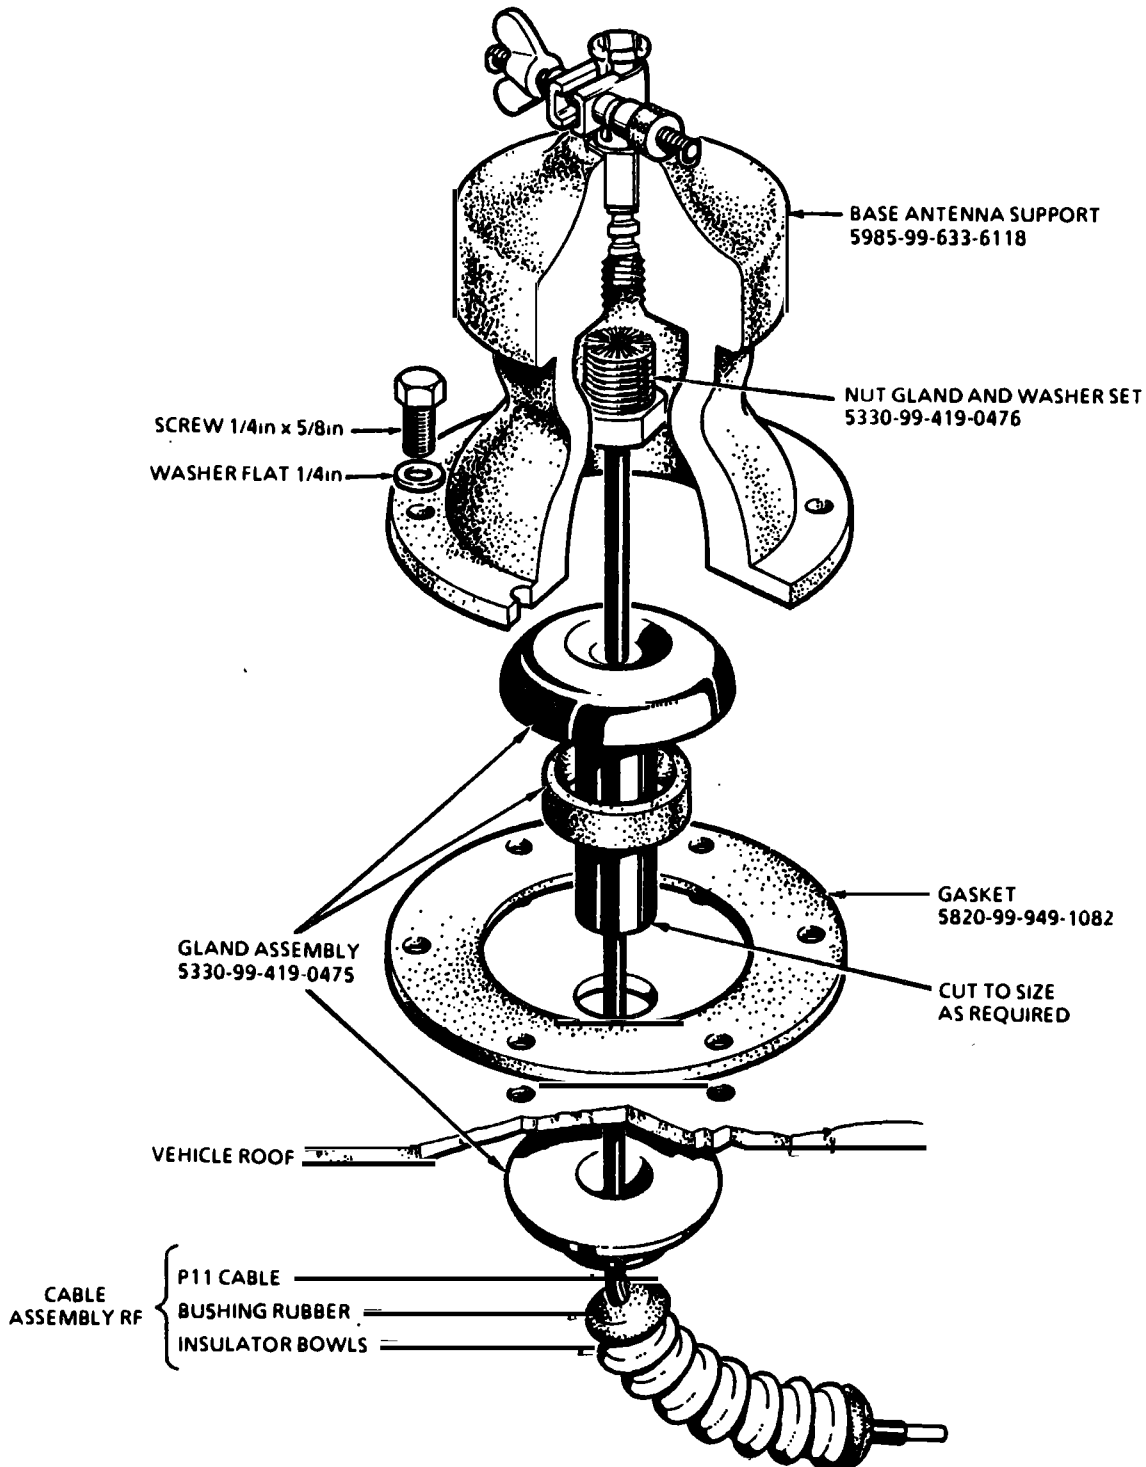

Fig 4 Antenna base assembly diagram
13.2.2 With reference to Fig 4 attach one end of cable (21) to the base antenna support using the nut gland and washer set.